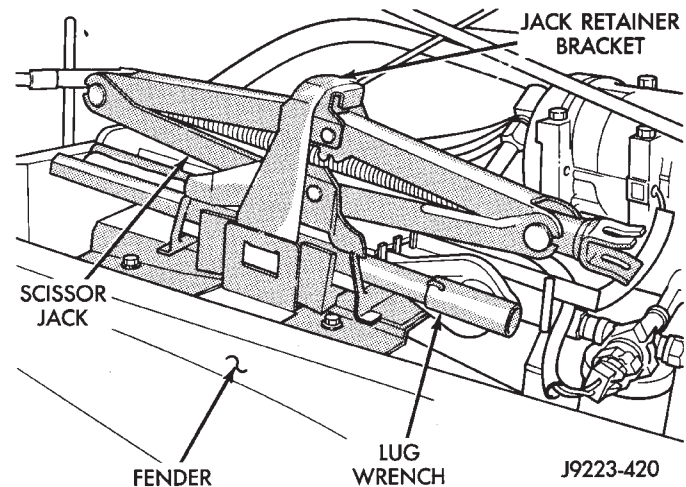

Fig. 35 Jack Installation
- install the jack and related tools in the jack storage tray (Fig. 35).